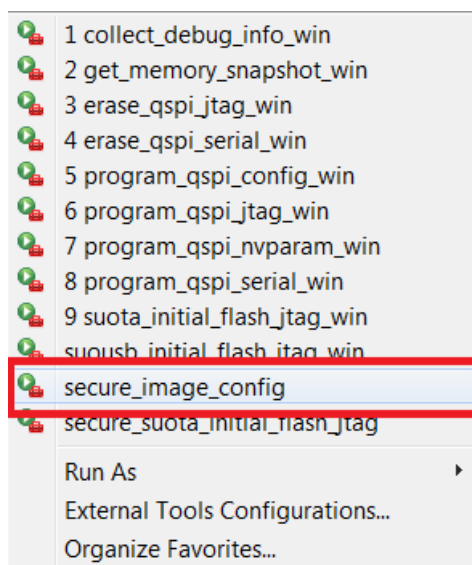

Figure 50: secure\_image\_config Python script
3. Use `secure_image_config.py` Python script as show in Figure 50. Answering on few questions will be required during script execution as shown in next figures.